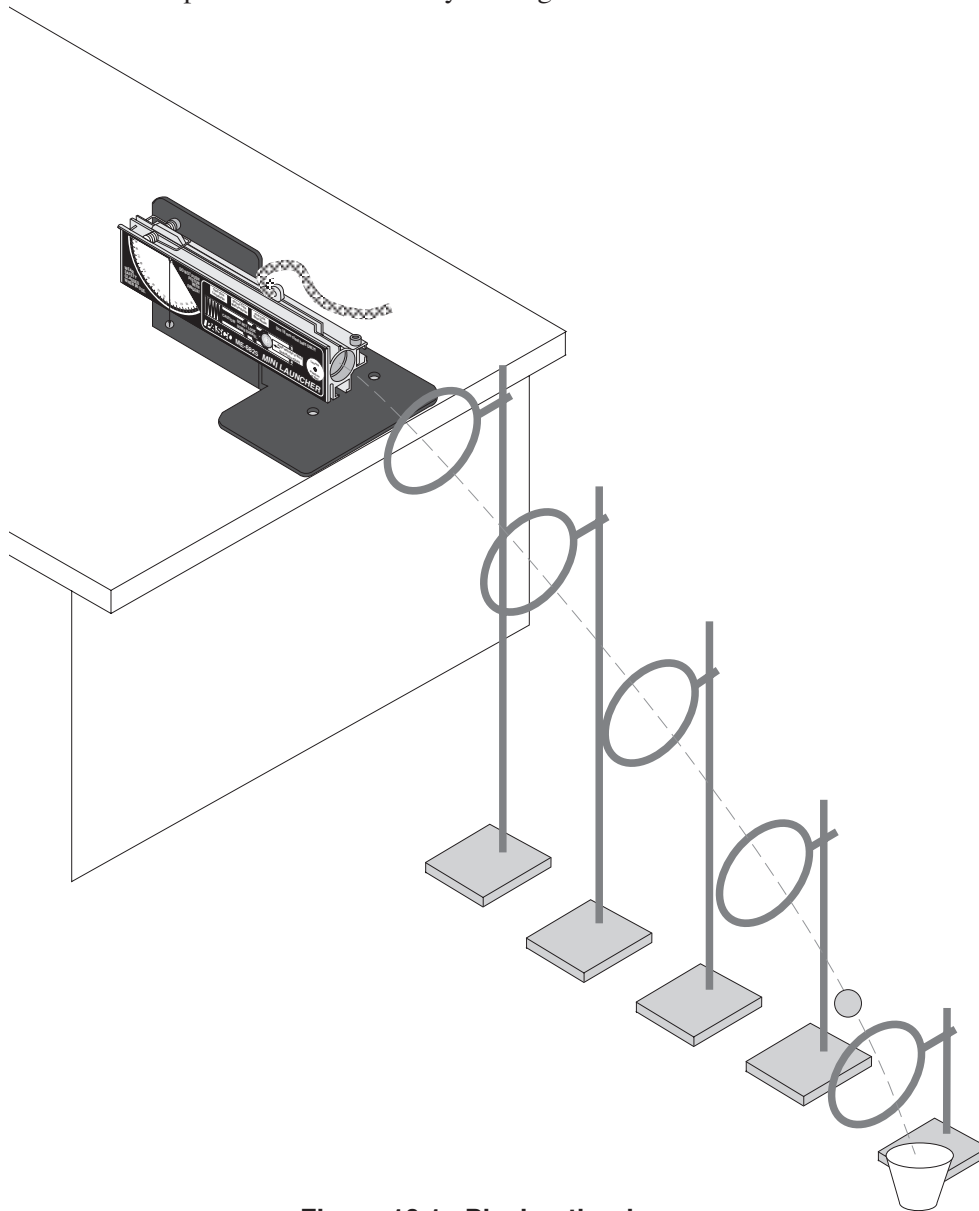

Figure 10.1: Placing the rings
- ② Calculate the horizontal and vertical positions of the ball each $1/10$ second until it hits the floor.
- ③ Lay the 2-meter stick on the floor in a straight line away from the Launcher.
- ④ Measure off each set of x and y and place a ring clamp on a stand at each position (See Figure 10.1). If possible it is best to adjust the last two ring stands at an angle from the vertical so the ball will not have to pass through them at an oblique angle. A cup may be placed at the end of the path to catch the ball.
- ⑤ Shoot the ball through the rings.
- ⑥ Ask the class what shape of curve is formed by the rings.